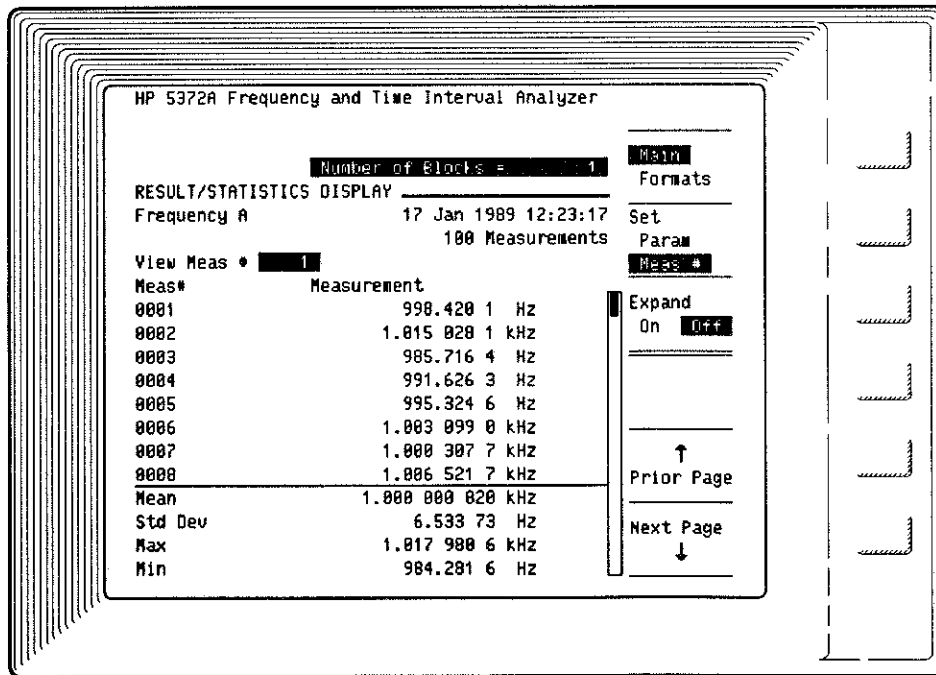

Figure 3-17. Numeric Results Screen
1. Adjust A2R12 such that the "Min" frequency indicates values as low as possible yet all greater than 900 Hz. See *Figure 3-17* for an example of the display being referenced.